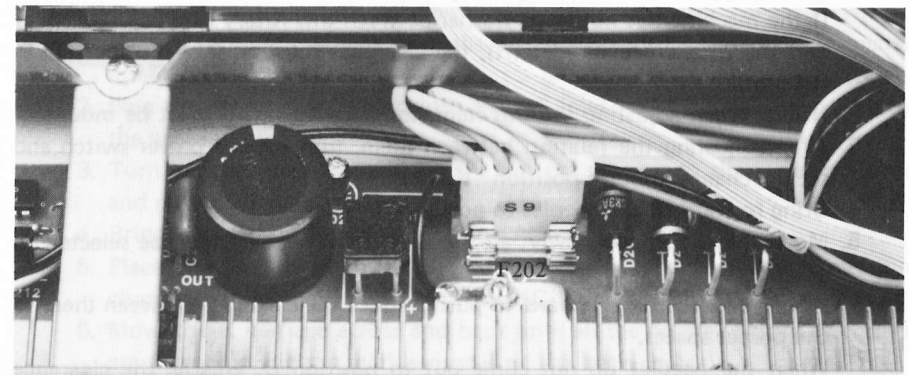

Fig. 17
3. If it is 0V, check the fuse (F202) which is installed on the power supply board. (Fig. 17).